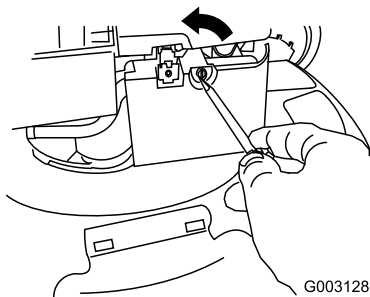

Figure 26
2. Use a screw driver to open the air filter cover (Figure 26).